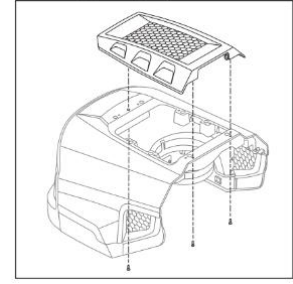

Fig. 2B
2. Gently push down until you hear the knobs click into place (Fig. 2B)